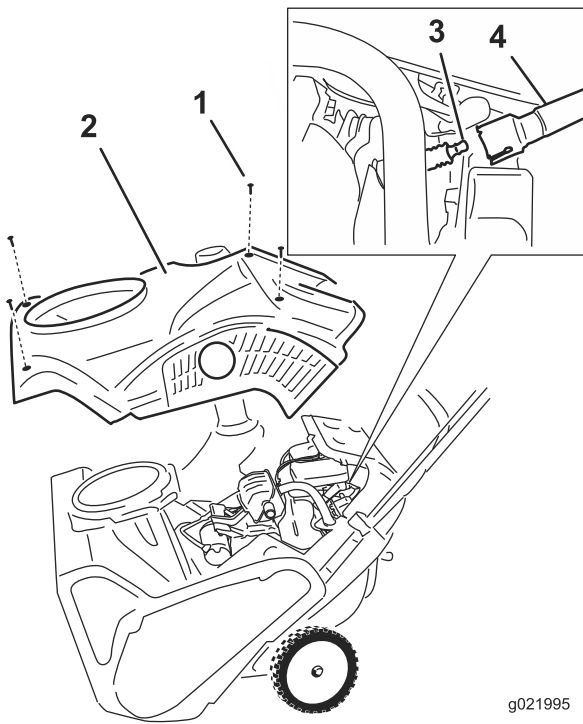

Figure 32
4. Remove the 4 screws that secure the shroud (Figure 32).
6. Remove the shroud (Figure 32).